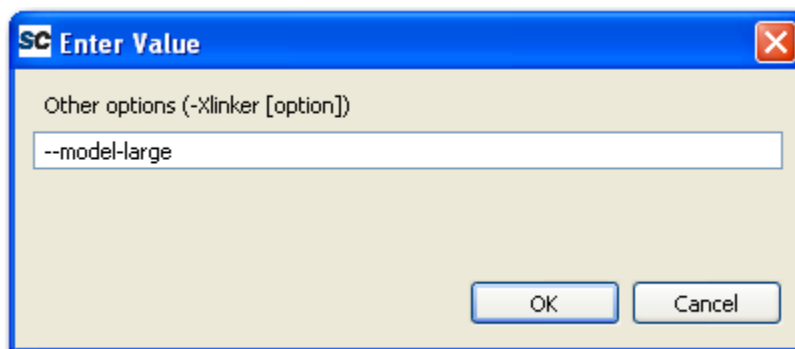

Figure 1-7 · Setting Linker to Large Memory Model
2. In the same box, click **Miscellaneous** under SDCC Linker. In the Other Options box, click on the icon with the plus [+] sign. The Enter Value box will open. Type `--model-large` for the large memory model for this tutorial. Click OK. (Figure 1-7).